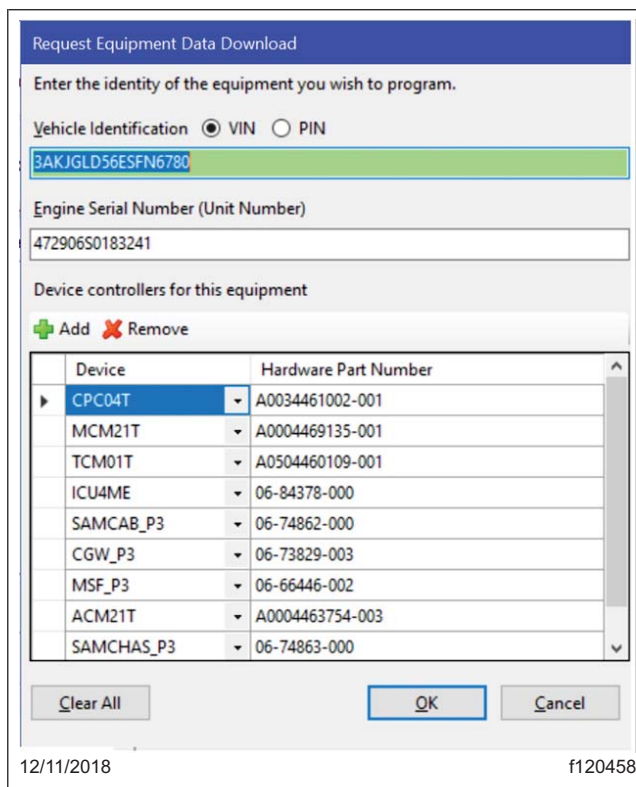

Fig. 7, Verifying Correct VIN Hardware
7. Make sure the correct VIN and hardware is populated, then click OK. See Fig. 7.